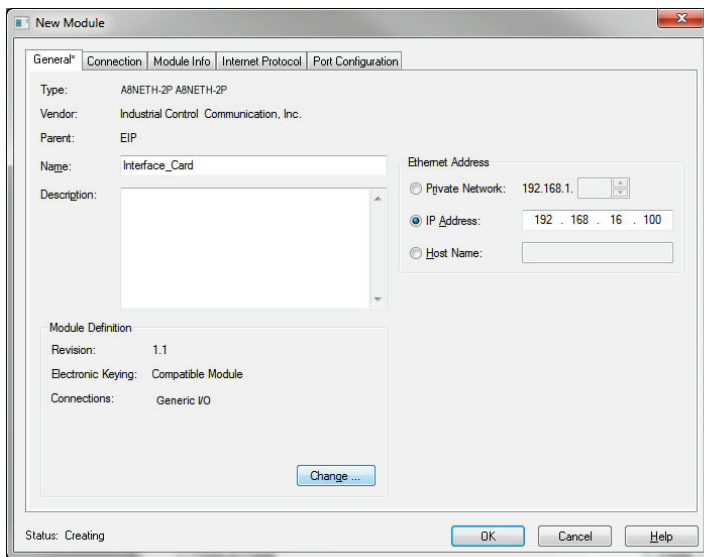

Figure 36: AOP Interface Card Module Properties
12) The “New Module” properties dialog box will open as shown in Figure 36.